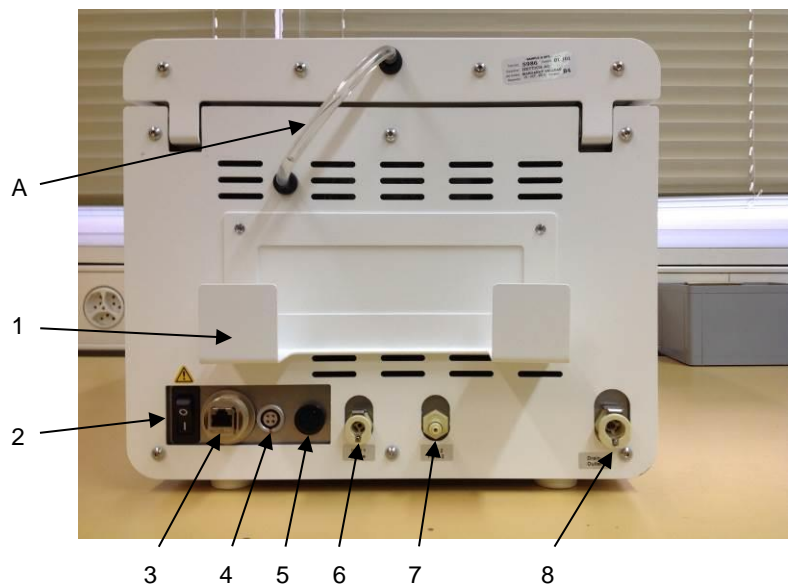

figure 7.1
If the storage-ambient was outside the working-ambient, then you must let acclimatize the device for 24 hours to the new ambient without to connect the power (fig. 7.1 pos. 4)
Install the power-supply in its mounting-bracket on the rear-side, see fig. 7.1 pos. 1 and plug the connector to the DC-input, pos. 4 on the fig. 7.1. Plug the provided main-power-cable into the power-supply and the other side to the power-source.
Plug the connector from the fill-hose to the inlet 1 on the rear-side, see on fig. 7.1 pos. 6, and dip the other side with the metal-part into the container with the saline-solution.
If your device have the optional inlet 2, plug the connector from the fill-hose 2 to the inlet 2 on the rear-side, see on fig. 7.1 pos. 7, and dip the other side with the metal-part into the container with the fluid 2-solution.
If you are working with the optional PC-software for the history, you have to install a patch-cable, cat. 5a or higher, to the Ethernet-interface, see on fig. 7.1 pos. 3, and the other-side to the local interface or direct to a computer. Refer also to the separate manual for that software.
Plug the connector from the drainage-hose to the outlet on the rear-side, see on fig. 7.1 pos. 8, and put the other side into the waste.
Push the ON / OFF main-switch, fig. 7.1 pos. 2, to the ON position. The start-initialization needs app. one minute.